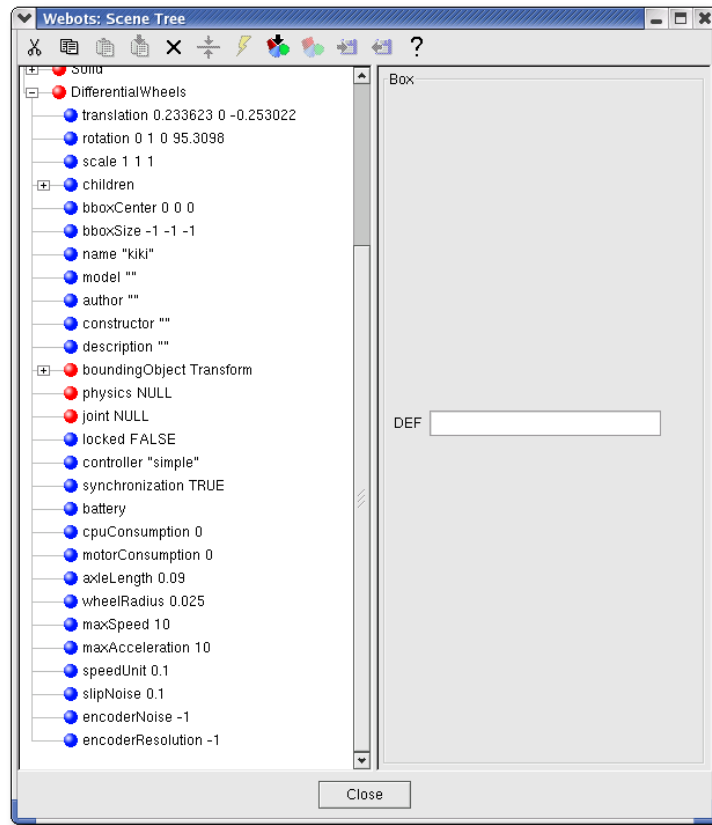
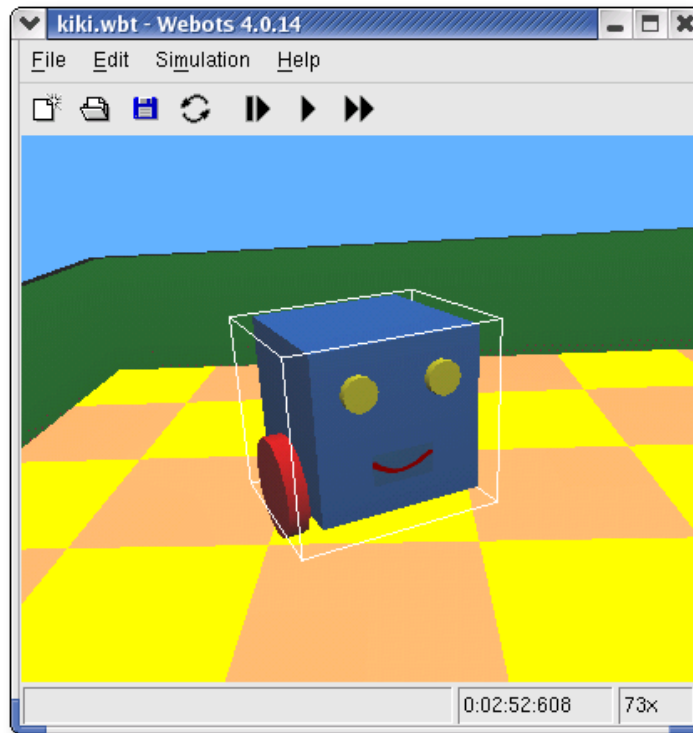

Figure 3.13: The other fields of the DifferentialWheels node
Figure 3.14: The *kiki* robot in its world
5. Values for other fields are shown in figure 3.13 and the finished robot in its world is shown in figure 3.14.